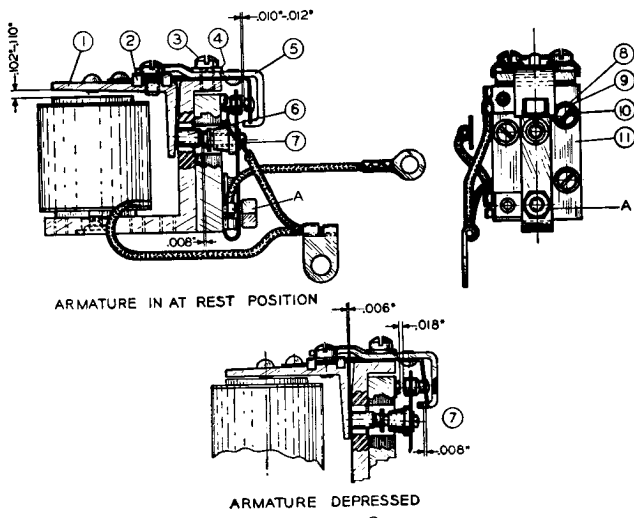
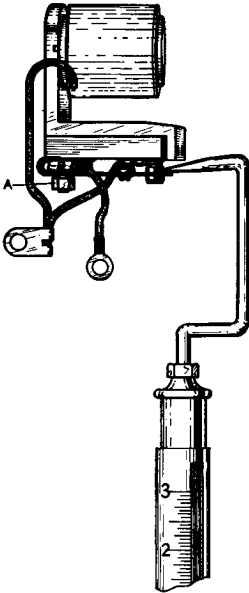
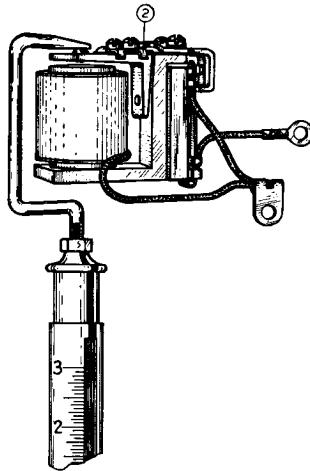

FIGURE 8
FIGURE 9
FIGURE 10
NOTE: The numbers given in the following paragraphs refer to Figure 8.
4. Adjust the tension of the terminal block movable contact springs—see Figure 9—this must be between 14 to 18 oz. Adjustment is made by tightening or loosening nut (A).
5. Loosely fasten the armature assembly (1) and hold-down bracket (5) to the regulator yoke using screw (3) and lock washer (4).
6. With the armature depressed, adjust the gap between the armature and yoke to $.006''$ —see Figure 8—using a standard feeler gauge. Securely fasten the armature in place.
7. With the armature (1) in the “at rest” position, the gap between the front of the armature and core must be $.102''$ -. $110''$; adjustment is made by bending the tongue end of the hold-down bracket (5) up or down as required.
8. Check the tension of the armature spring—see Figure 10—this must be between 23 oz.-32 oz. Adjustment is made by shifting the spring clamp (2).
10. With the armature (1) fully depressed, the opening between the lower regulating contacts must be at least .018". This is adjusted by means of the reverse current screw (7). In this position the spring with the upper regulating contact must be raised at least .008" from its "at rest" position.
11. With armature (1) in the "at rest" position, a gap of not less than .008" must exist between reverse current screw (7) and the glass bead (6).